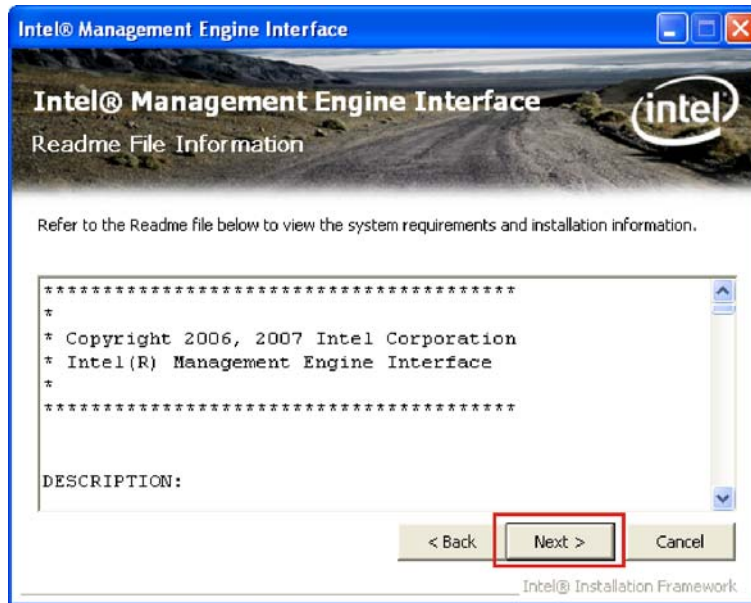

Figure 7-36: AMT HECI Driver Readme File
Step 8: The IAMT Readme file appears (Figure 7-36).